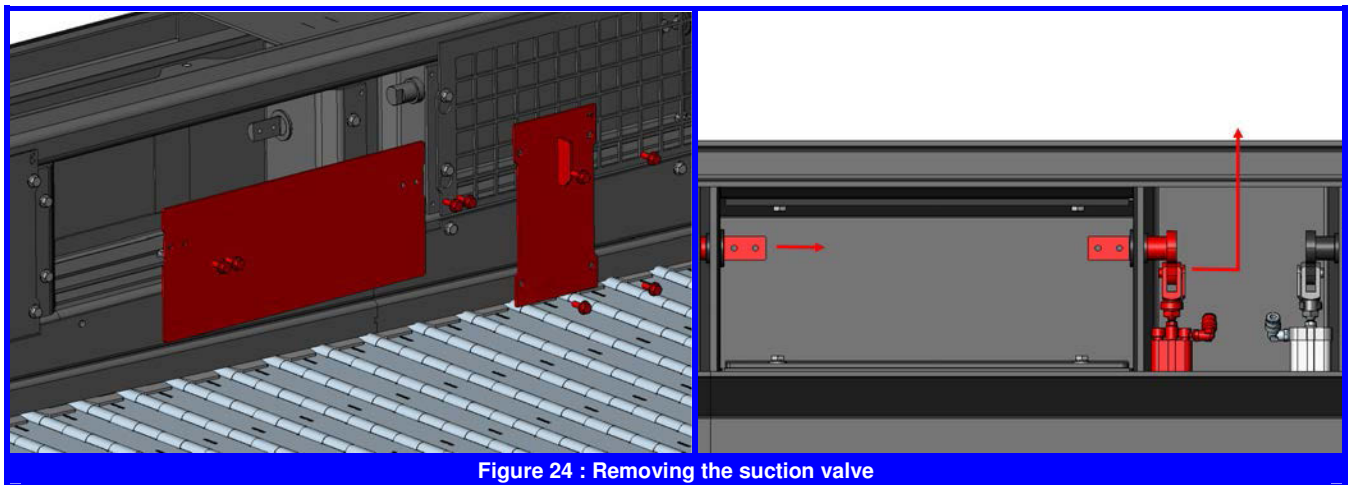

Figure 24 : Removing the suction valve
3. Unscrew the screws holding the shutter in position then remove it (**Figure 24**).
4. Remove the valve guide shaft from the bearing opposite the actuator (**Figure 24**).